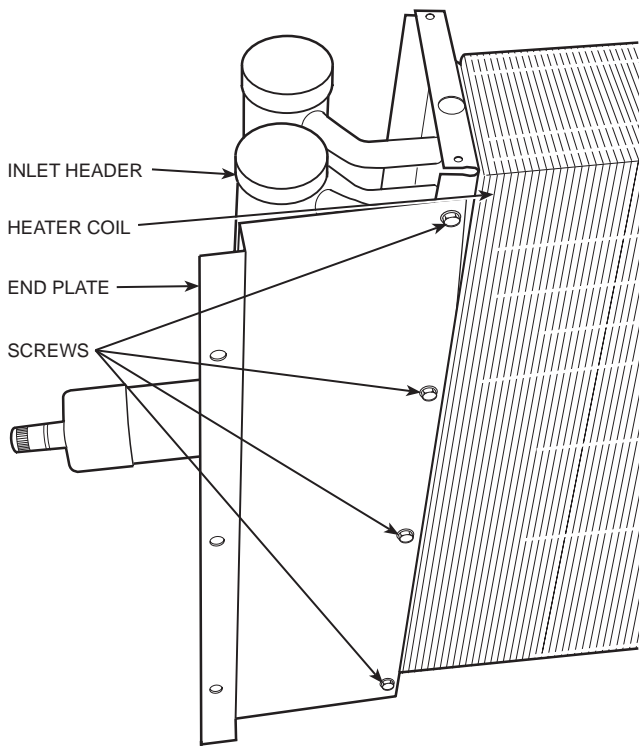

Fig. 5 — End Plate Installed, Header End
4. Using sheet metal screws provided, mount block-off end plates to hydronic coil as shown in Fig. 5 and 6.